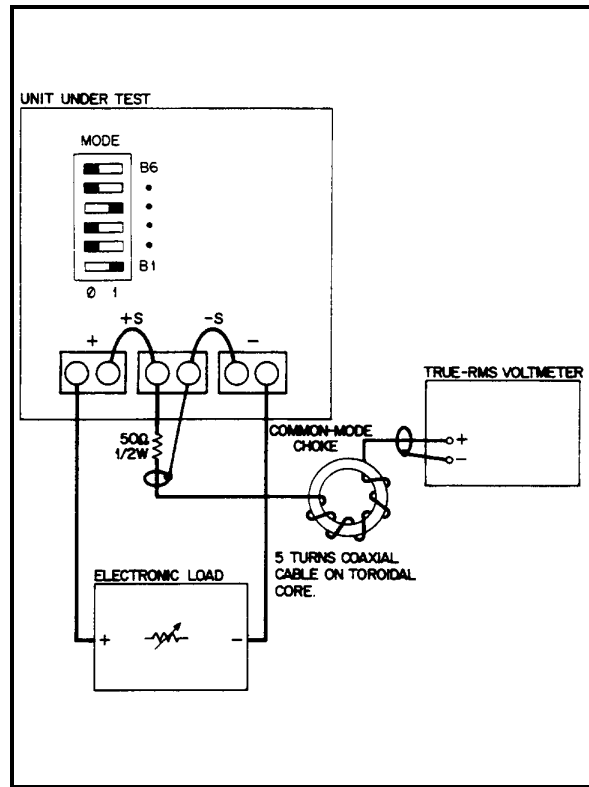

Figure 2-6. RMS Measurement Test Setup, CV PARD Test
**RMS Measurement Procedure.** Figure 2-6 shows the interconnections of equipment to measure PARD in Vrms. To ensure that there is no voltage difference between the voltmeter's case and the unit's case, connect both to the same ac power outlet or check that the two ac power outlets used have the same earth-ground connection.
- a. Connect the test equipment as shown in Figure 2-6. Operate the load in constant resistance mode (Amps/Volt) and set resistance to maximum.